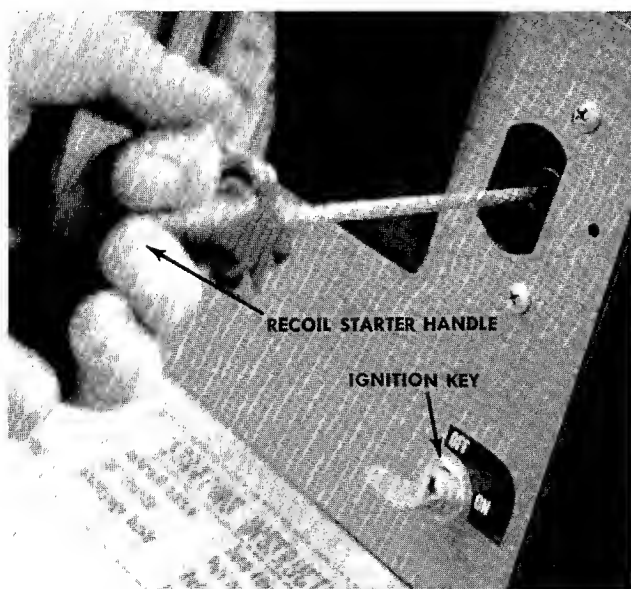

FIGURE 12. RECOIL STARTER
Recoil Model. The key must be turned to the ON position before you pull the recoil handle to start the engine. Remove the key when the mower is not in use. Turn the key to the left to the OFF position to stop the engine. See figure 12.
The recoil starter handle is located on the right side of the dashboard. The recoil starter handle can either be pulled while seated on the rider or pulled while standing behind the rider. The ignition key must be on before the engine will start. After the engine starts, the recoil starter handle must be returned and locked into the dashboard before the blade or clutch are engaged. The engine will stop if you do not follow these instructions. See figure 12.
7. **Recoil Model.** Turn the ignition key to the ON position, twist the recoil starter handle until it is free and pull it with a quick steady motion. After the engine starts, return the recoil starter handle and twist it until it locks. See figures 12 and 16.